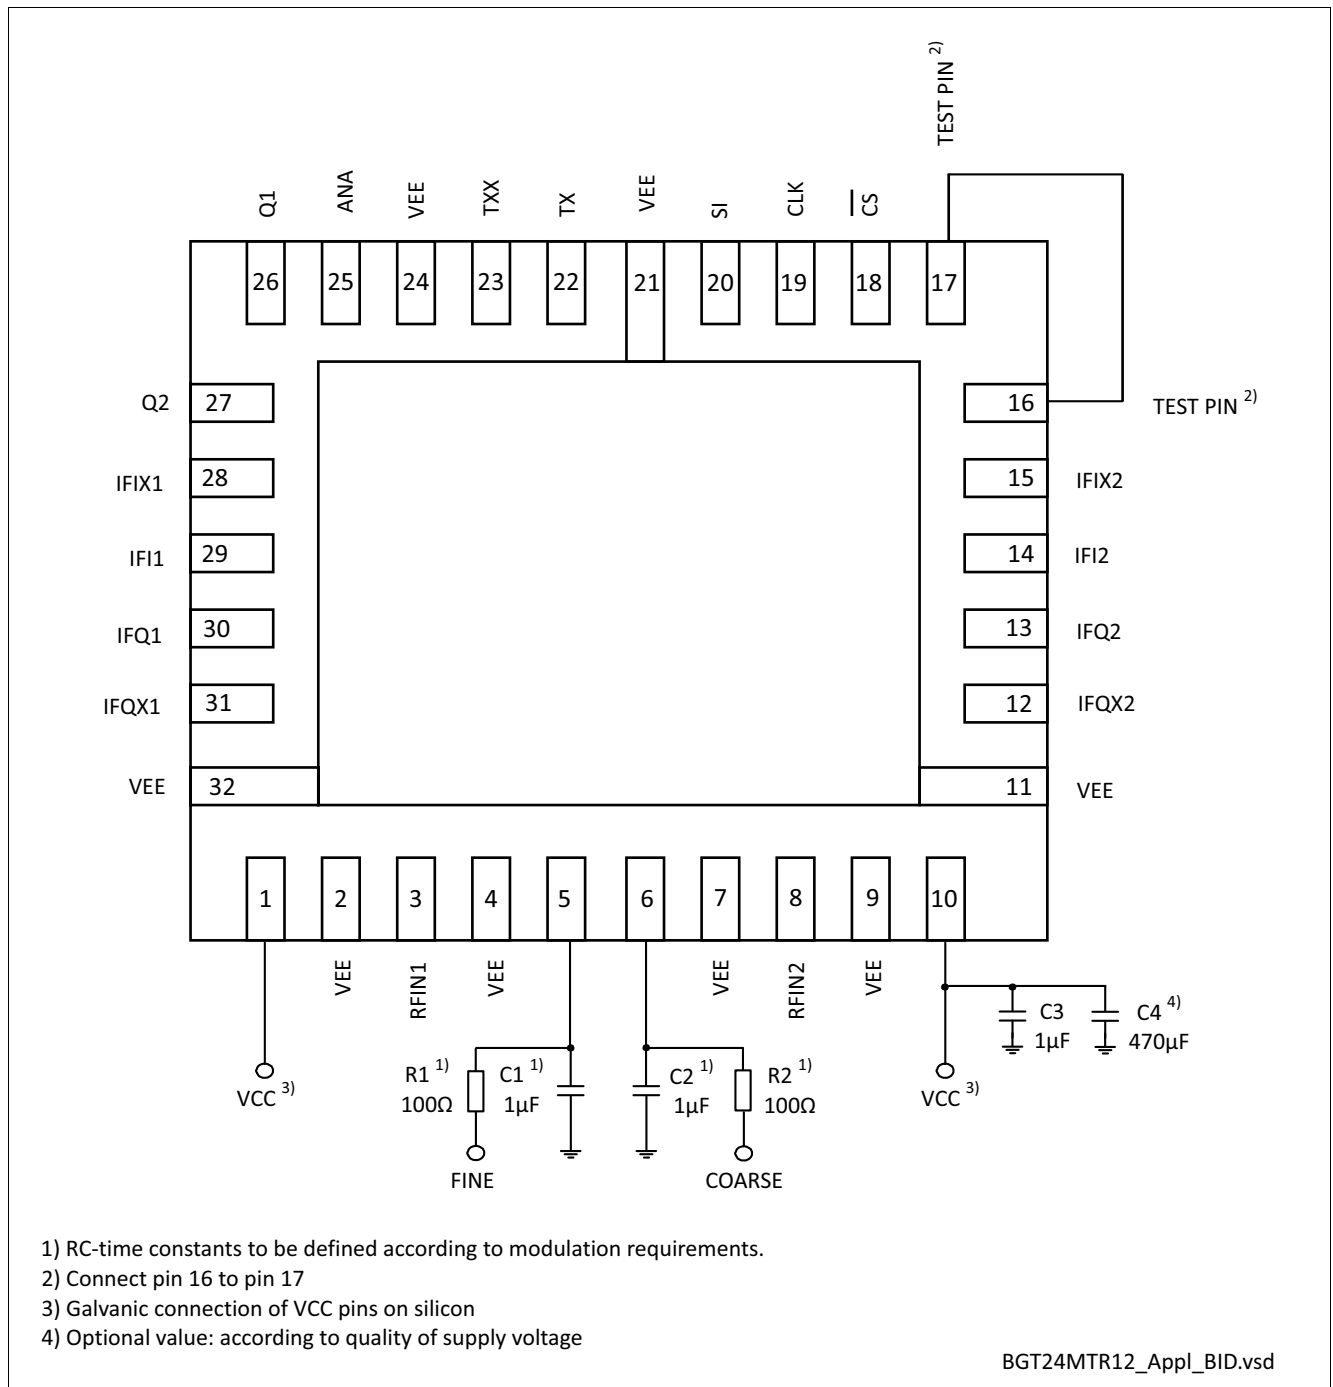

Figure 2 Application Circuit with Chip Outline (Top View)
- 1) Performance based on Application Circuit Figure 2 on Page 15, Cross Section of Application Board, Compensation Structures and Application Board Layout Figure 4 on Page 21ff and Footprint Figure 8 on Page 24
1) Performance based on Application Circuit Figure 2 on Page 15, Cross Section of Application Board, Compensation Structures and Application Board Layout Figure 4 on Page 21ff and Footprint Figure 8 on Page 24